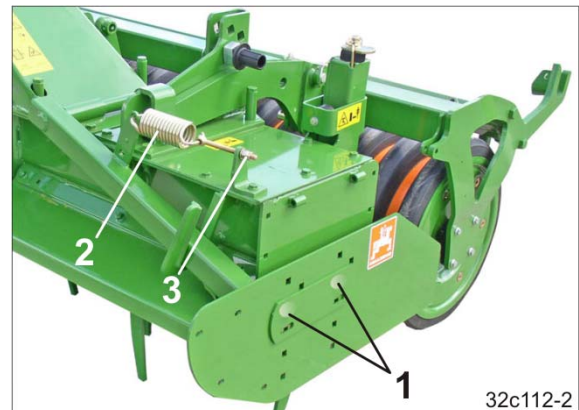

Fig. 106
The side panel is fastened with two round-head screws (Fig. 106/1) and can be adjusted vertically.
2. Adjust the tension of the spring (Fig. 106/2) by turning the nut (Fig. 106/3).